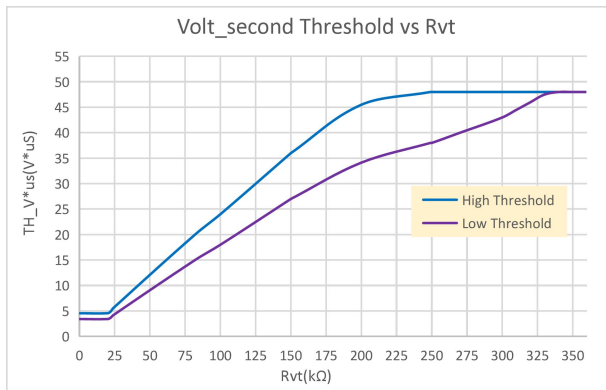
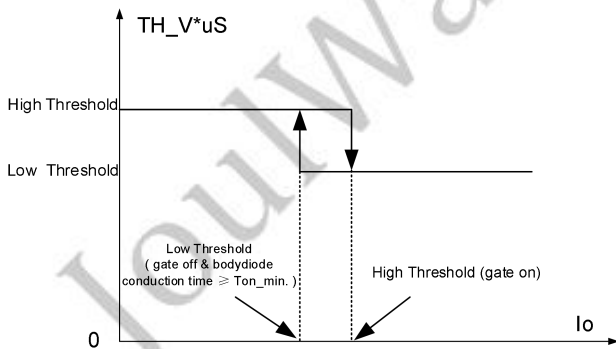

Fig. 2 Volt-second value vs. VT resistance
Fig. 3 Volt-second value with hysteresis
2) Volt-second of SW: in DCM and QR operation, there are parasitic oscillations. In some applications, the drain resonant voltage may fall below the SR turn on threshold, especially for the first couple rings. SR could be falsely turned on, which may cause shoot through issue and result in high power loss. The volt-second value of SW pin can be used to distinguish the parasitic ring from normal primary side switch on. The threshold can be set by the resistance at VT pin. The curve is shown in Fig. 2.
than 330k Ω . The voltage-second hysteresis is shown in Fig. 2 and Fig. 3.